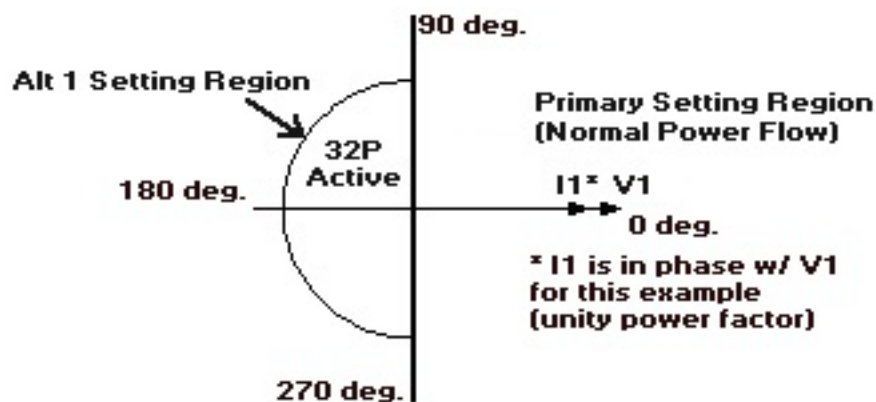

Figure 1: Torque Angle Selection
- b. 32P Torque Angle: Ideal angle for the 32P. This setting must be set from 0 – 355 degrees increasing counter. In this example, assume normal power flow has unity power factor where the positive sequence current is in phase with the positive sequence voltage. Therefore, the ideal torque angle is 180 degrees (see Figure 1 below).